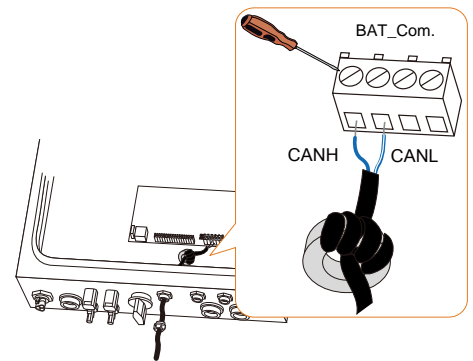

Figure 11 CANH and CANL connection to SH5K+ circuit board
Step 2: Plug CANH into the CANH port and plug CANL into the CANL port of the configuration circuit board of SH5K+ (Figure 11).